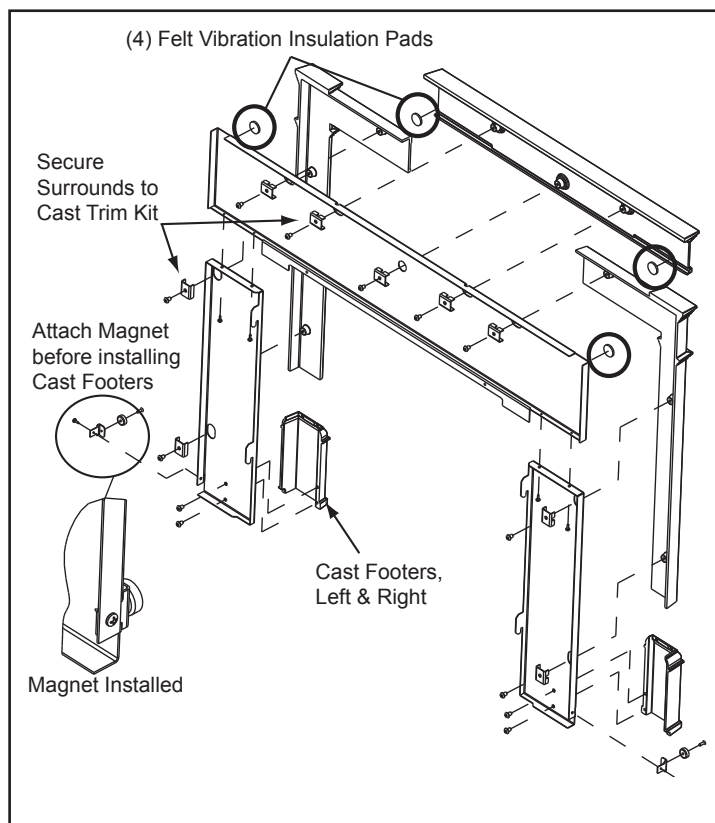

Figure 23.1
3. Using a 4 to 6 inches long Phillips head screw driver attach the side surrounds to the top surround using (2) #8 sheet metal screws on each side provided with the kit.
4. Place the peel and stick round felt vibration insulation pads on the front side in each corner of the top metal piece and on the back side in each corner of the top cast piece. **Figure 23.1.**